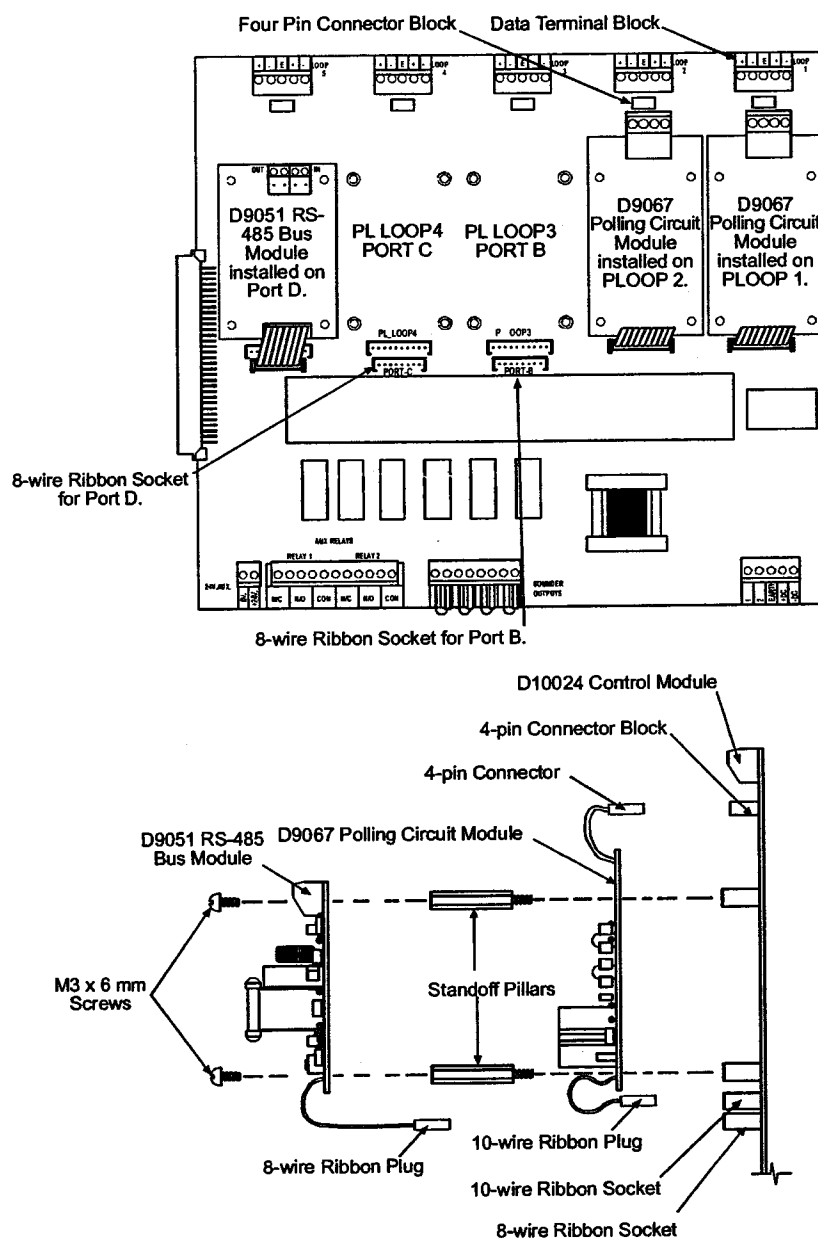

Figure 2: D9051 - D10024 Mounting
- 3) If the D9051 must be "stack-mounted" over a D9067 Polling Circuit Module due to the system configuration, Ports B, C or D may also be used for "stack-mounting" purposes. Mount the D9067 to the D10024 Control Module. Then "stack" the D9051 over the D9067 with standoff pillars. See Figure 2.
- 3) Connect the eight-wire ribbon plug into the eight-wire ribbon socket. See Figure 2. Connect the ten-wire ribbon plug from the D9067 Polling Circuit Module if "stack-mounting."